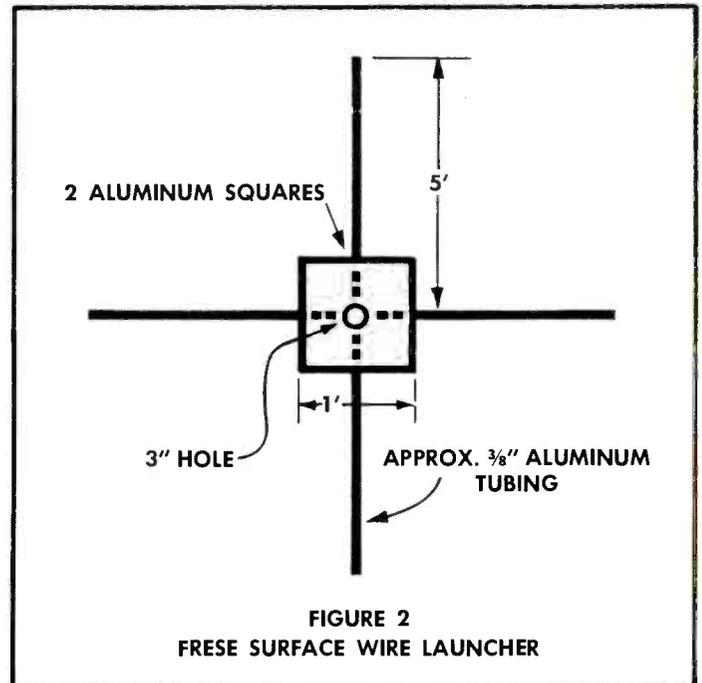

FIGURE 2
Note 5 foot  $\frac{3}{8}$  aluminum tubing (4), square (1 foot) aluminum plate, and micalex plate. See figures 2, 6 for construction details. G-line radiates towards left of picture from center of micalex plate.